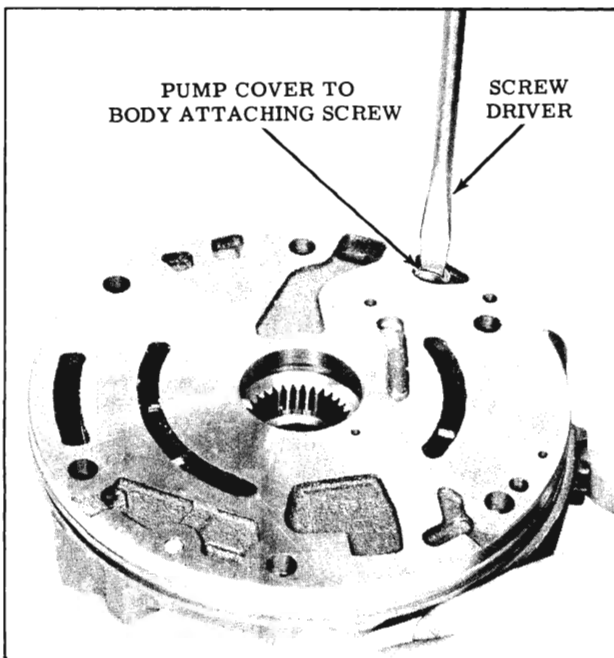

Fig. 3-278 Removing Pump Cover
2. Remove the pump cover by removing one attaching screw (Fig. 3-278)